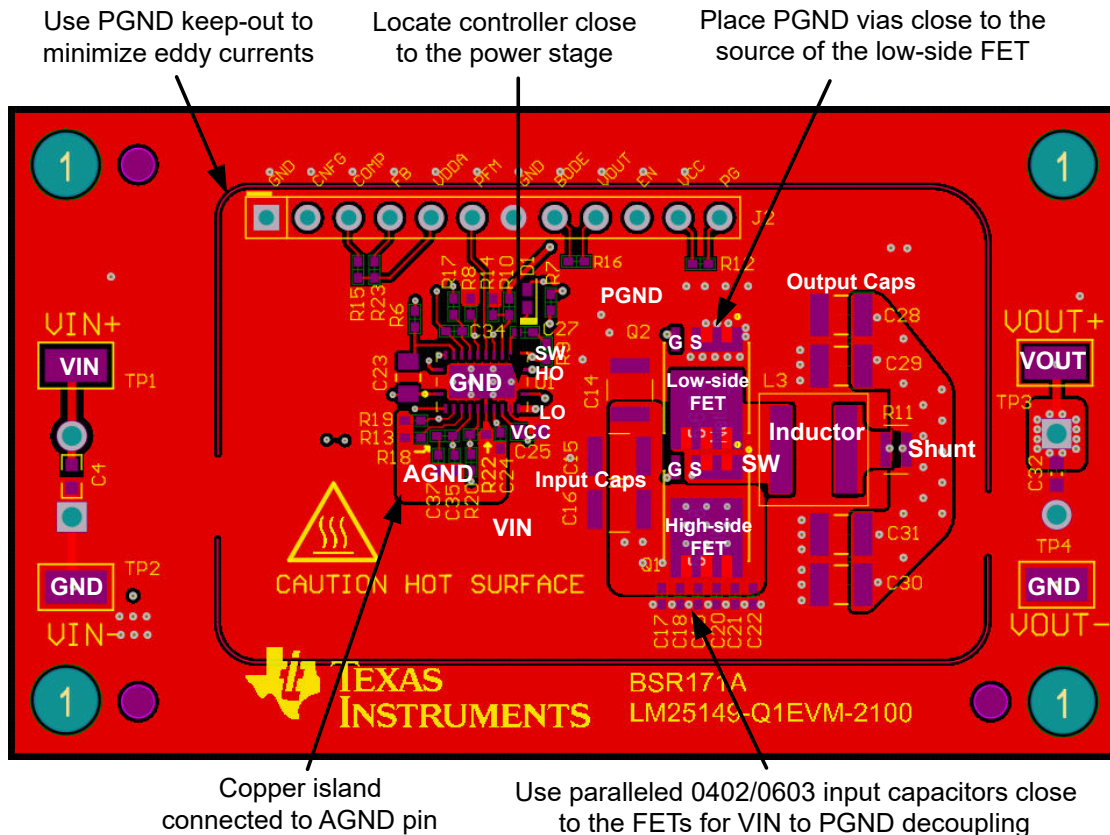

Figure 9-47. PCB Top Layer – High Density, Single-sided Design
Figure 9-47 shows a single-sided layout of a synchronous buck regulator with discrete power MOSFETs, Q1 and Q2, in SON 5-mm × 6-mm case size. The power stage is surrounded by a GND pad geometry to connect an EMI shield if needed. The design uses layer 2 of the PCB as a power-loop return path directly underneath the top layer to create a low-area switching power loop of approximately 2 mm². This loop area, and hence parasitic inductance, must be as small as possible to minimize EMI as well as switch-node voltage overshoot and ringing.
- Make the ground connections to the LM5148-Q1 controller as shown in Figure 9-47. Create a power ground directly connected to all high-power components and an analog ground plane for sensitive analog components. The analog ground plane for AGND and power ground plane for PGND must be connected at a single point directly under the IC – at the die attach pad (DAP).